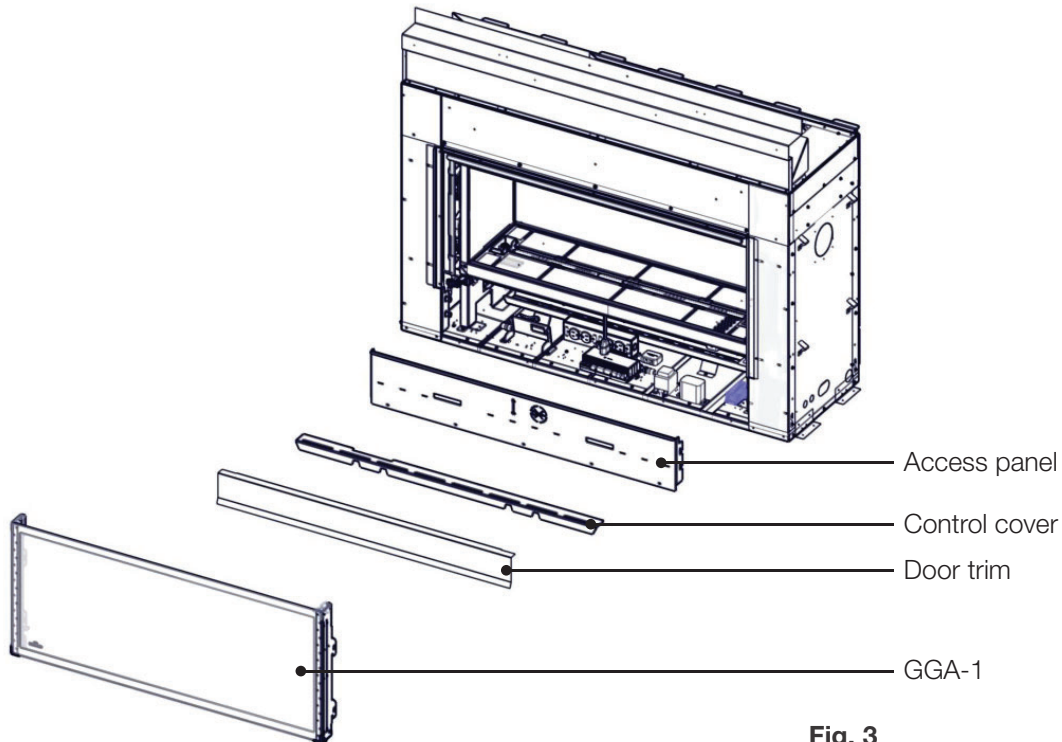

Fig. 3
3. For ease of installation during preliminary adjustment, remove the door trim, control cover and access panel (**Fig. 3**).